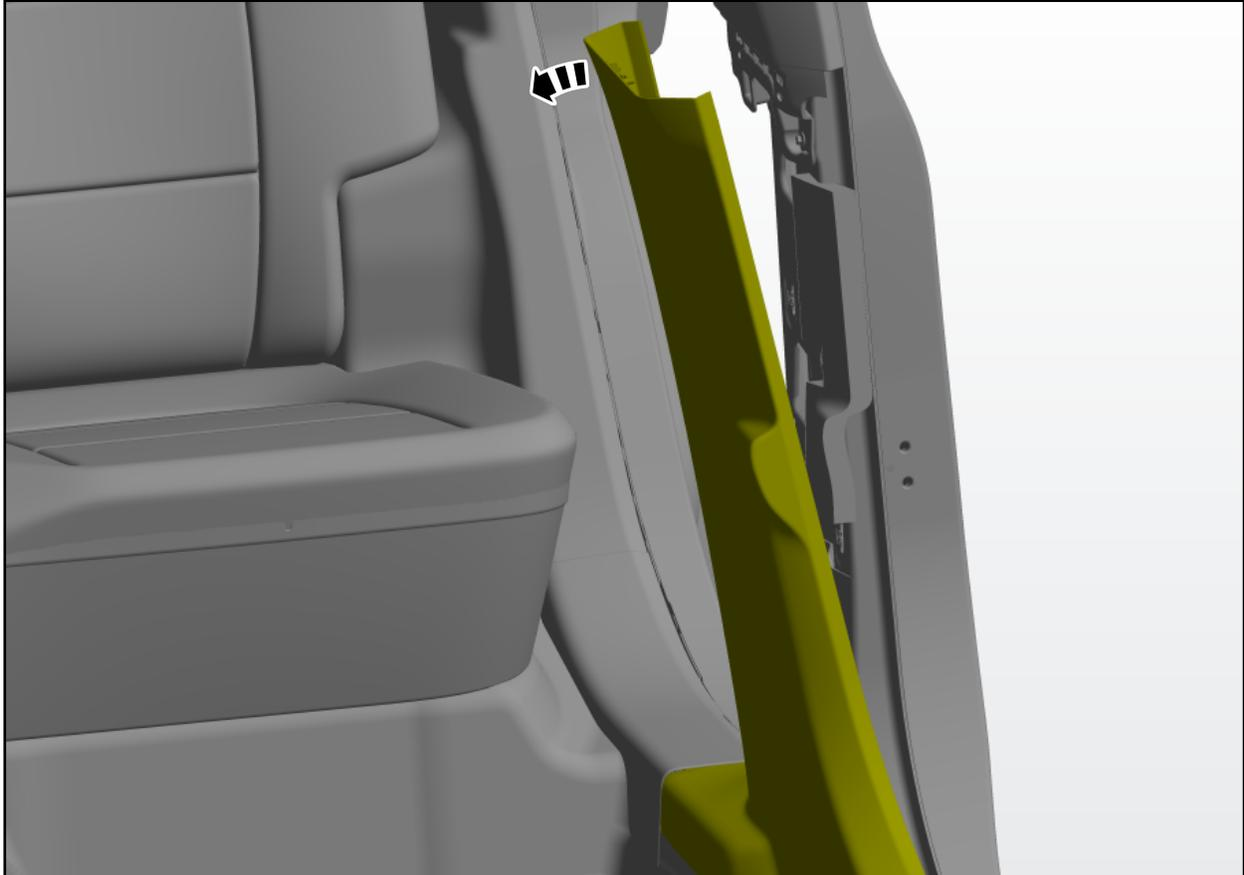

FIGURE 4
4. Position aside the top portion of the LH lower B-pillar aside. See Figure 4.